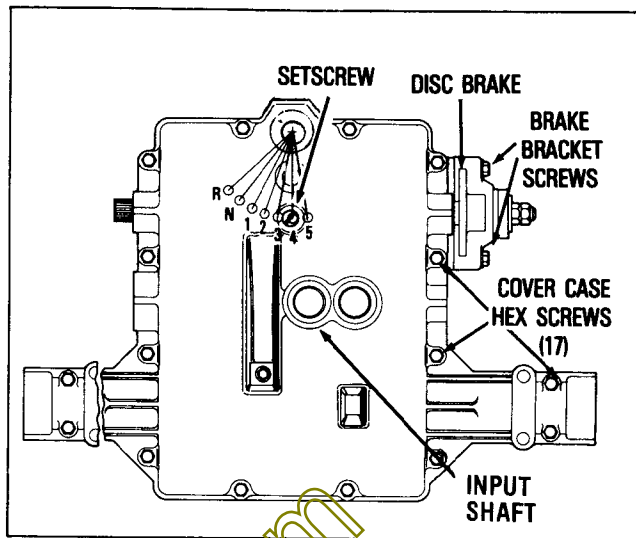

FIGURE 3
1. Remove 17 Hex screws that hold cover to case. (See Figure 3).
3. Remove two brake bracket screws (Figure 3), and remove brake assembly.